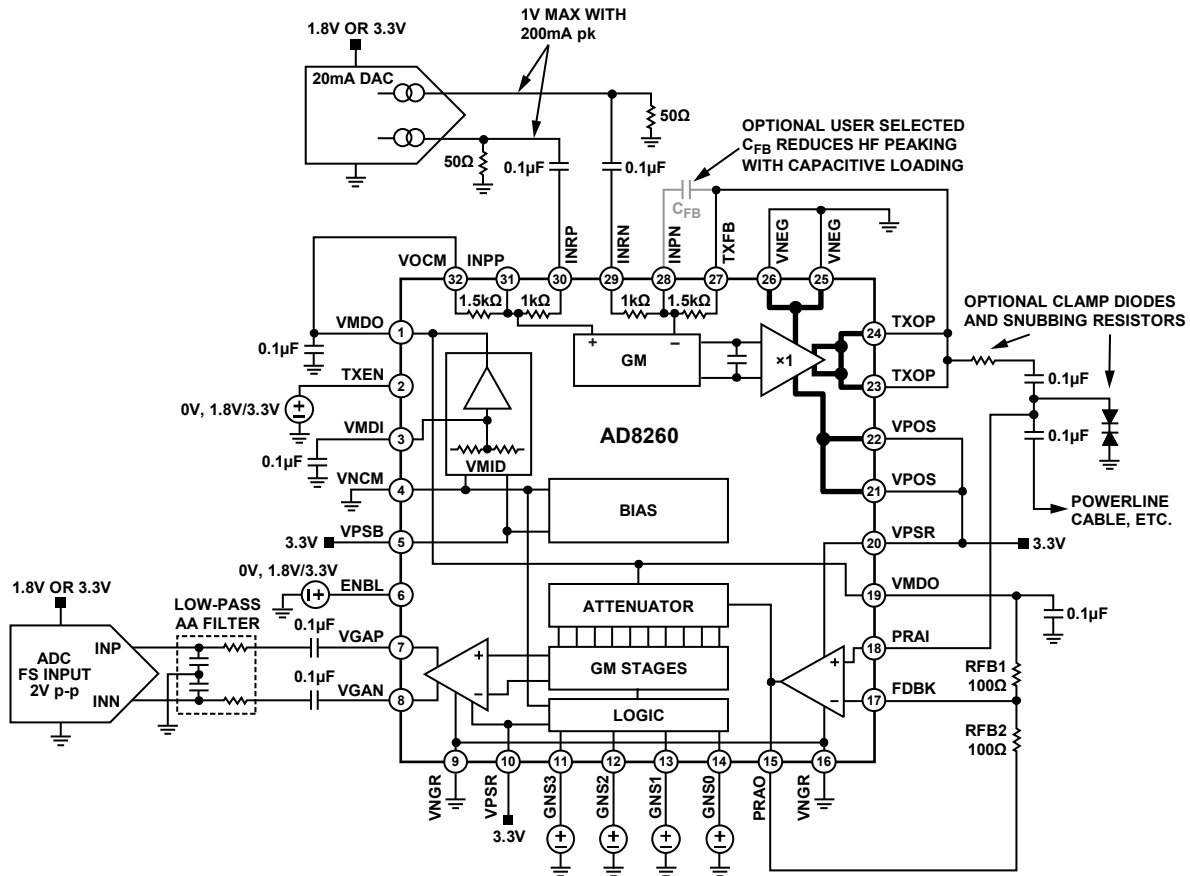

Figure 64. Block Diagram and Basic Application Connections
The AD8260 is a self-contained transceiver intended for analog communications using a power line as the media. Operating on supplies as low as 3.3 V, it includes a high current driver usable as a transmitter and a low noise digitally programmable variable gain amplifier (DGA), usable as a receiver (see Figure 64). An uncommitted current-feedback high frequency op amp acts as a preamplifier and interface to the DGA and is user configured for gains greater than 6 dB. Combined, the VGA and preamplifier are usable at high signal levels from dc to 100 MHz, with a small-signal  $-3$  dB bandwidth of 230 MHz. To implement a high current-output VGA, the VGA output can be connected to the driver-amplifier differential input.
4-bit parallel interface. Figure 64 shows the circuit block diagram and basic application connections, and illustrates the envisioned external DAC, ADC, and power-line bus interface connections. The diagram shows the connections for single 3.3 V supply operation; if a dual supply is available, the VMID generator can be shut down and Pin VMDI, Pin VMDO, and Pin VOVM need to be grounded. Note that Pin VNCM functions as the negative supply for the bias and VMID cells, plus the logic interfaces, and should always be tied to ground.
For optimal dynamic range, it is important that the inputs and outputs to both the driver amplifier and the preamplifier and the DGA output amplifier be ac-coupled in a single-supply application. In Figure 64, the DAC and ADC are presumed to operate on a 1.8 V or 3.3 V supply with a corresponding limited output and input swing. The DAC outputs are currents that point down and generate a voltage in the  $50\ \Omega$  resistors that are connected to ground. The maximum voltage with a peak DAC output current of 15 mA is 0.75 V; if a DAC with a 20 mA peak current is used, then the maximum voltage is 1 V per side for a differential input signal of 2 V p-p.
The high current driver amplifier can deliver very large output currents suitable for driving complex impedances, such as a power line, a 50 Ω line, or a coaxial cable. The input of the amplifier is fully differential and intended to be driven by a differential current-output DAC, as shown in Figure 64. The differential input signal is amplified by 1.5× and produces a 2.25 V p-p single-ended output signal from a 1.5 V p-p input signal. A DAC with 15 mA maximum output current into a 50 Ω load provides 1.5 V p-p of input voltage and results in 2.25 V p-p at the output. A DAC whose output is 20 mA produces an output swing of 3 V p-p (neglecting a small gain error when driving the parallel combination of the 50 Ω load-resistor and the internal 1 kΩ gain resistor of the AD8260).
During receive, when the high current driver-amplifier is disabled, its gain setting resistors provide a signal path from input to output. To prevent inadvertent DAC signals from being transmitted while receiving via the preamplifier and DGA, the DAC in Figure 64 must have no output signal.
The VMID buffer is a dc bias source that generates the voltage on Pin 1 and Pin 19, VMDO. Node VMDO cannot accommodate large dynamic currents and requires excellent ac decoupling to ground. A high quality 0.1μF capacitor located as close as possible to Pin 1 and Pin 19 (see Figure 64) is normally sufficient to decouple the high values of current from Node VMDO.
Referring to Figure 64, the signal path consists of a 30 dB programmable attenuator followed by a fixed gain amplifier of 18 dB for a total DGA gain range of  $-12 \text{ dB}$  to  $+18 \text{ dB}$ . With the preamplifier configured for a gain of 6 dB, the composite gain range is  $-6 \text{ dB}$  to  $+24 \text{ dB}$  from single-ended preamplifier input to differential DGA output.
- Use the internal VMID buffer as shown in Figure 64.